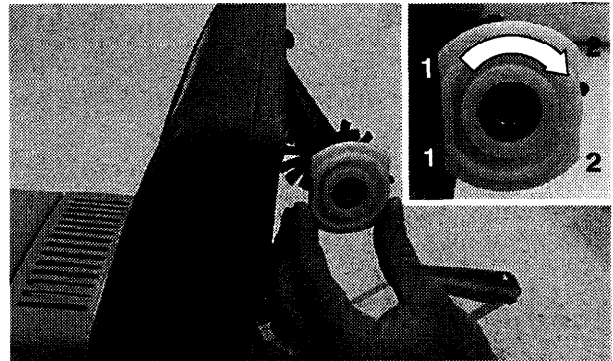

FIG. 15
4. Rotate both bearing blocks 180° and reinstall brush (Figure 15).